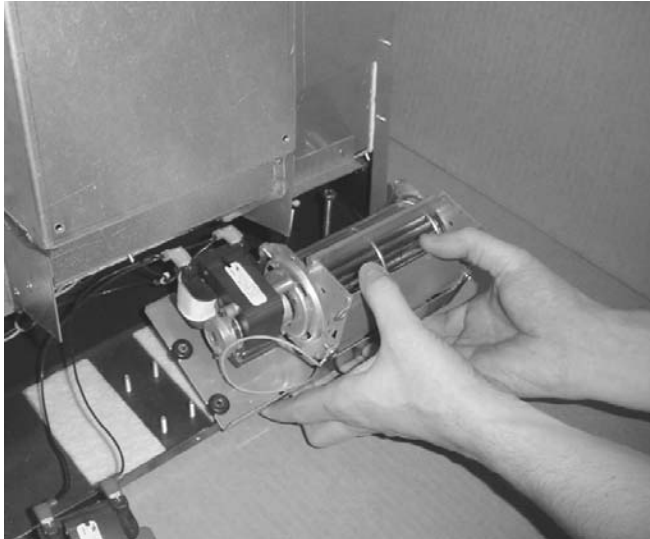
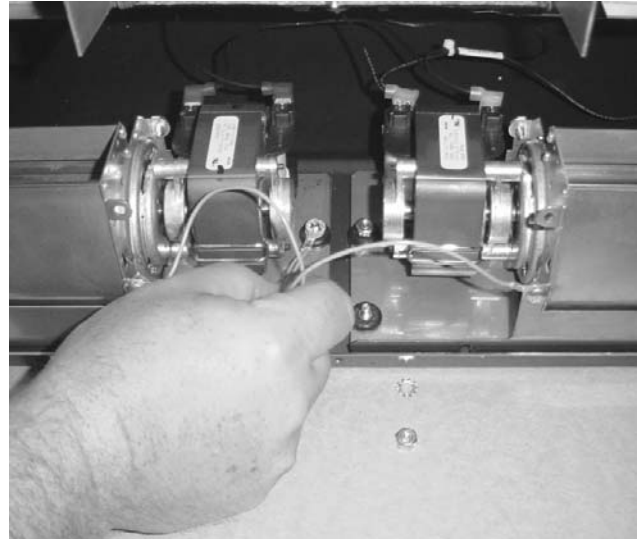

Figure 13
Figure 14
- 7 Make sure the grommets and bushings are properly positioned on the blower assemblies (note: there are four grommets and three bushings on each assembly – the outer back grommet does not require a bushing). Place the blower in place, making sure each grommet and bushing slides over the press studs on the baseplate (see Figure 13). Each blower is secured with a single nut (this keeps the blower from dislodging while positioning the insert). Use the center nut near the front. Secure one blower with the included nut. Place the ground wires over the other post, insert the star washer over the post, and secure using the remaining nut (see Figure 14). Do not over-tighten these nuts.